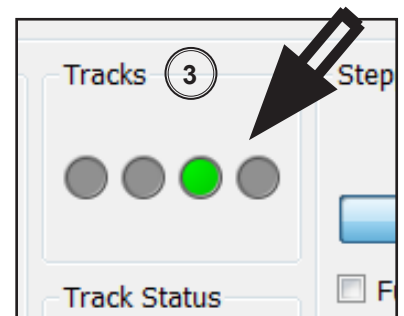

Figure 6. ScanX PSP Track Indicators
- With the PSP held in the slot, the Inlet Plate Sensor indicator should change from grey to green on the monitor as shown by Figure 6. If the indicator did not change color, remove and reinsert the PSP.